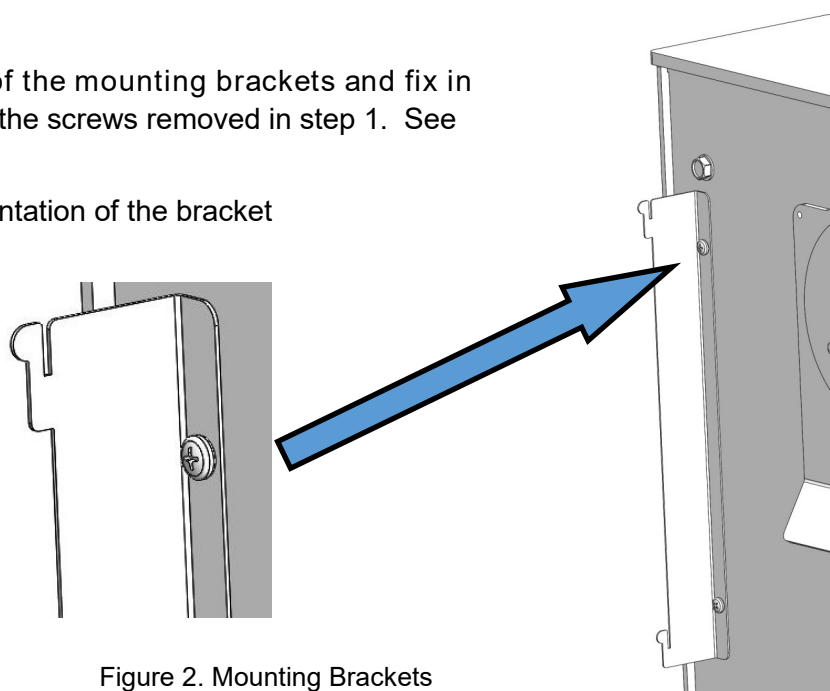

Figure 2. Mounting Brackets
Step 4 : Take one of the ceramic solid fuel base liners and place into the firebox along side the revolving grate. Ensure the largest side of this liner is against the side liner. See figure 2. Repeat the process for the remaining side.
Step 2 : Take one of the mounting brackets and fix in place using 2no. Of the screws removed in step 1. See figure 2.